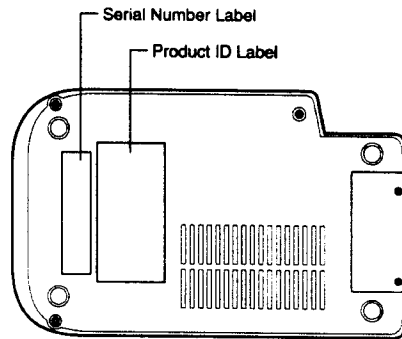

Figure 16 Product Information on Bottom of Terminal
- Model(s) to be returned. A model and part number are located on the bottom of each terminal. For example, OMNI 3200 and P092-xxx-xx (see Figure 16).
- Serial number(s) of the terminal(s) to be returned. A serial number (S/N xxx-xxx-xxx) is located on the bottom of each terminal, just above the bar code (see Figure 16).